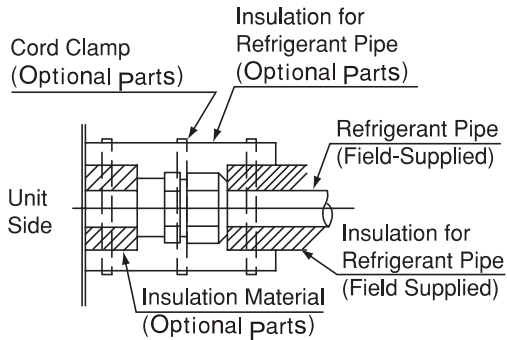

Fig. 5.3 Insulation on Pipes
- (3) After connecting the refrigerant piping, seal the refrigerant pipes by using the Field - supplied insulation material as shown in Fig 5.3.